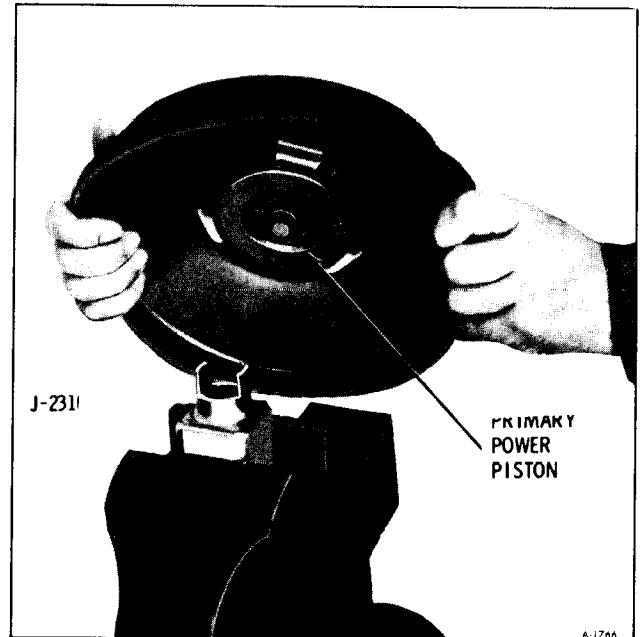

Figure 42—Positioning Primary Power Piston
18. Mount Tool J-23101 in a vise with small jaws up. Position the primary power piston so that the two radial slots in the piston fit over the jaws of the tool. (figure 42)
11. Mount Tool J-23101, in a vise, small jaws up. Position the primary power piston so that the two radial slots in the piston fit over the jaws of the tool. (figure 42)